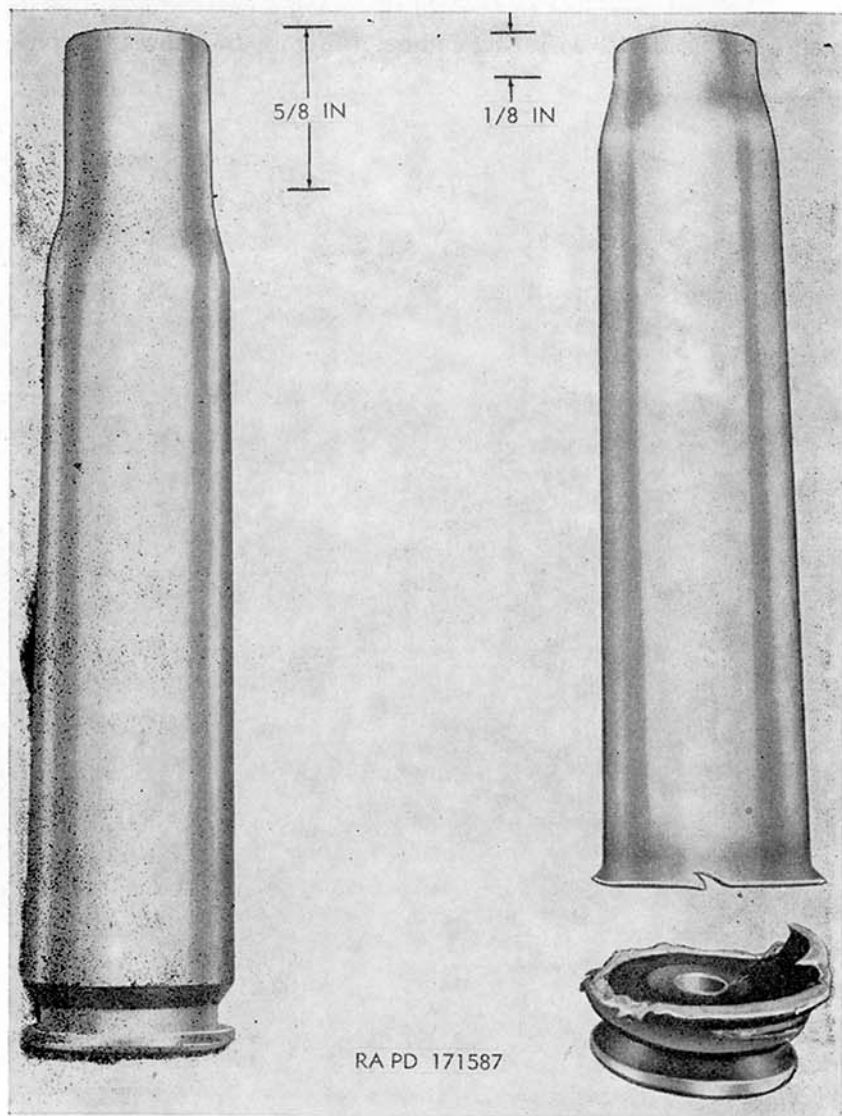

Figure 35. Cal..50 machine gun cartridge case ruptured due to excessive head space.
- (3) Figure 35 shows a case that was ruptured due to excess head space. The report on this malfunction stated that in adjusting head space the barrel was screwed into the extension as far as it would go and then backed off two or three clicks, without retracting the mechanism or looking to see that the barrel was screwed against the bolt.